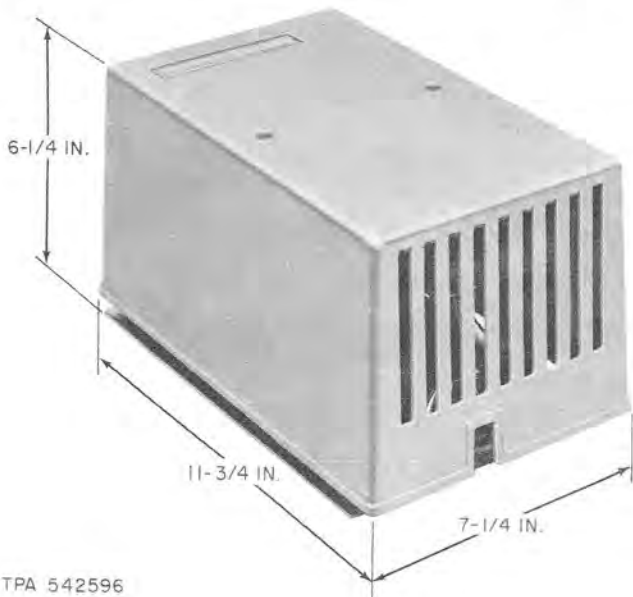

Fig. 3—1A Service Unit
**1.06 1A Service Unit (Fig. 3):** Contains the power supply for the 1A display unit, additional circuitry not included in the display and control units, and provisions for terminating the cabling from the display unit, the 55D control unit, 72A control unit, and the video and audio circuits. Weight: approximately 17 lbs. A power cord must be ordered separately. See Ordering Guide.